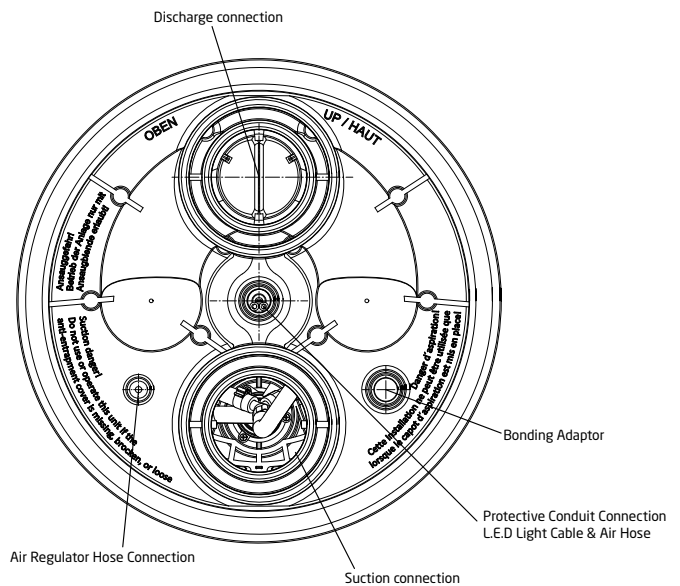

Figure 11
2. Install the protective conduit (refer to Figure 11 on page 14 & Figure 20 on page 17):
3. Install the air regulator hose (refer to Figure 11 on page 14 & Figure 20 on page 17):
**CAUTION:** Locate discharge connector directly **ABOVE** the suction connection. Discharge and suction connectors must be exactly vertical or the stainless steel handles will not align properly. (See Figure 11)